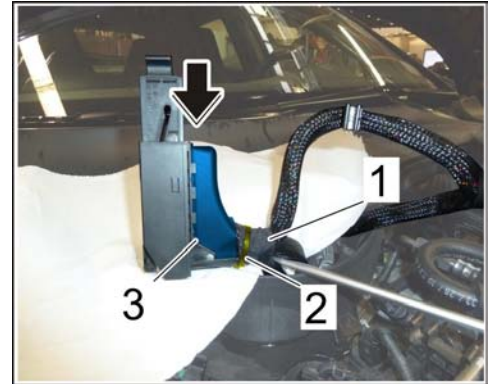

Figure 15
- 14.1 Fix the ends of the three protective sleeves in place in front of the connector using fabric tape ⇒ *Figure 15 -1-* and a tie-wrap ⇒ *Figure 15 -2-*.
- 14.2 Slide on connector cover ⇒ *Figure 15 -3-* and engage it securely ⇒ *Figure 15 -arrow-*.